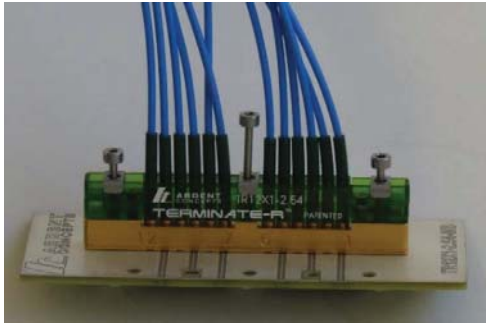

Figure 7: Verifying M2 Screw Contact
- If the TR assembly has 3 M2 screws as in a X12 or X24 assemblies, tighten the middle screw before tightening the side screws (See Figure 7).